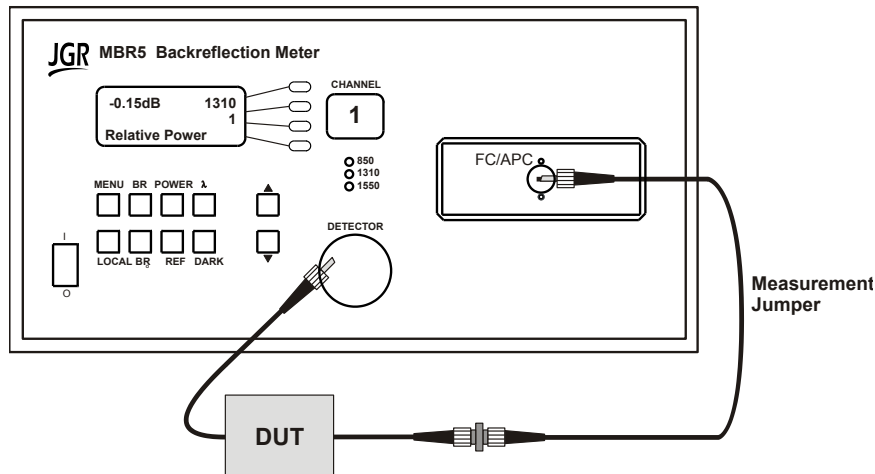

Figure 11: Measuring Relative Power
4. Clean the output connector of the measurement jumper and the input connector of the DUT, and connect the two together. Connect the output connector of the DUT to the detector on the front of the meter. The meter displays the loss due to the DUT (see Figure 11).